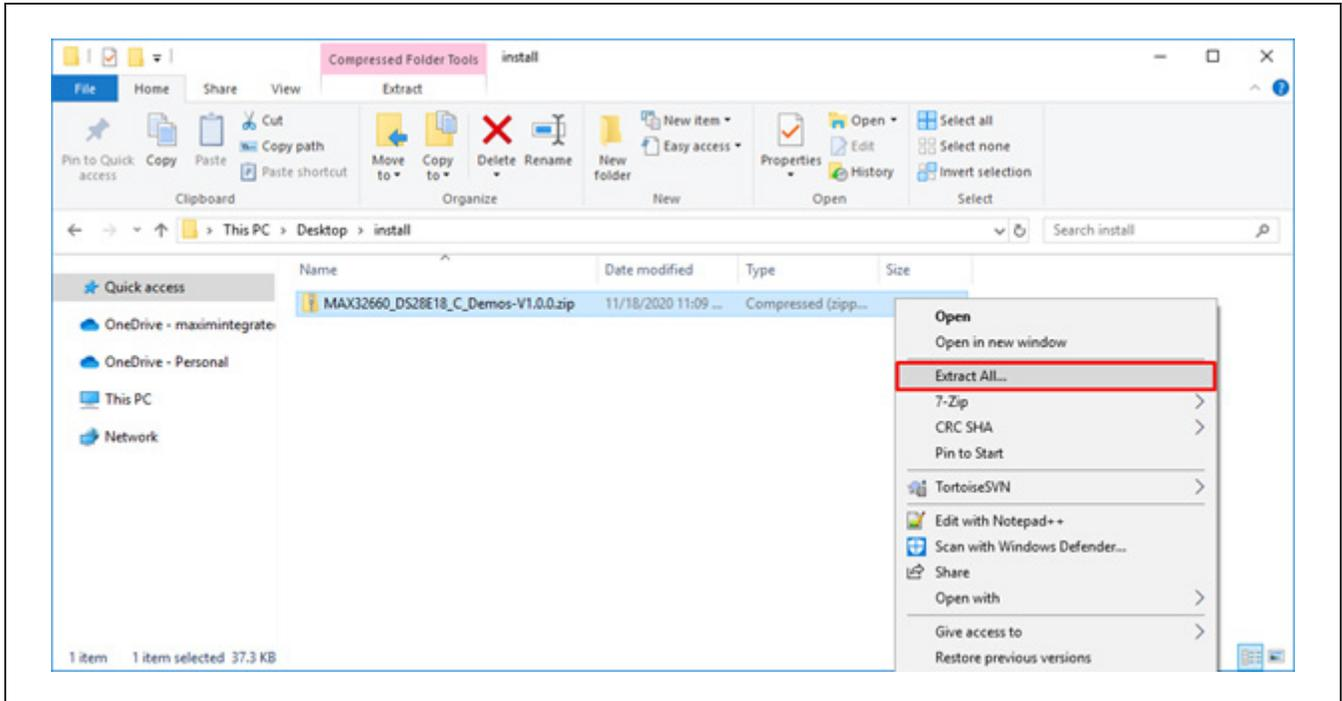

Figure 6. C-Demo extraction.
- 6) Download and extract the **MAX32660_DS28E18_C_Demos-V1.0.0.zip** file in any location (Figure 6).